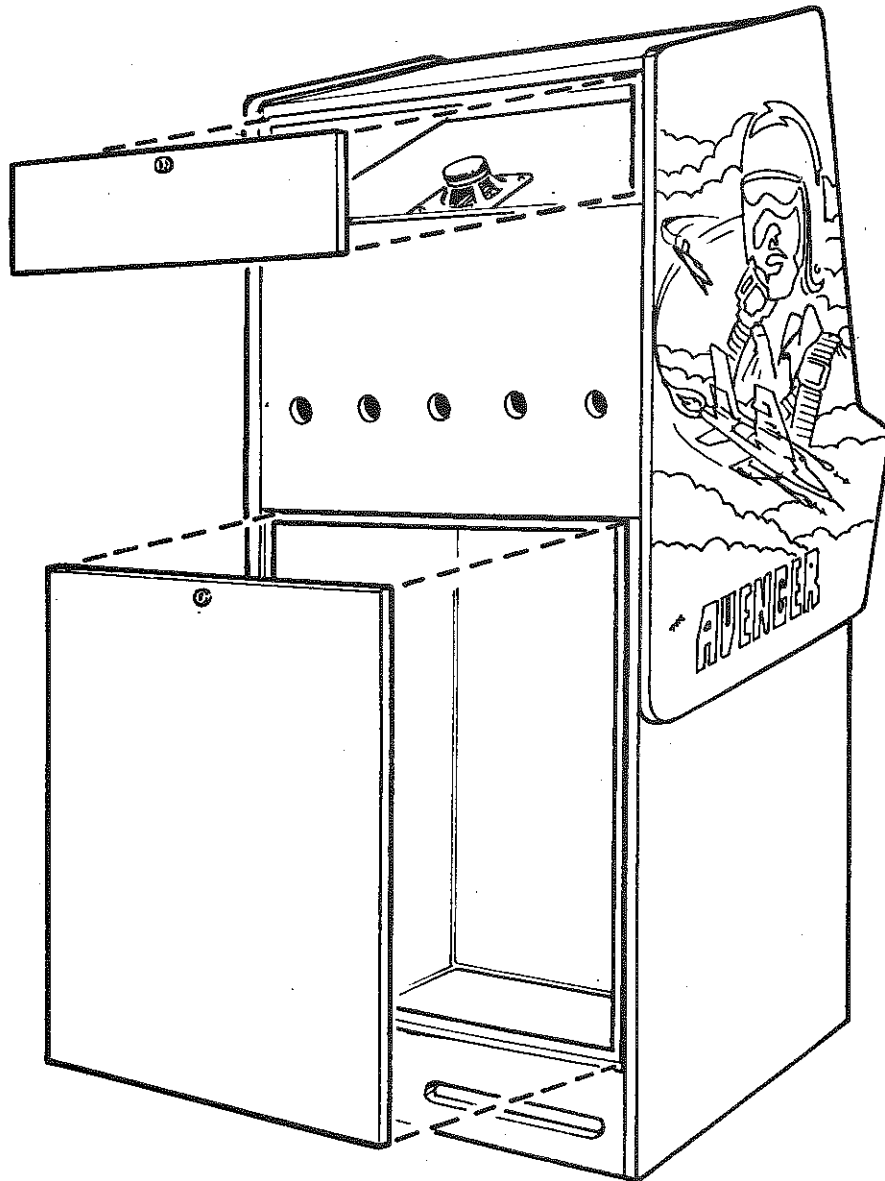

FIG. 1
- . Access into the back of the Cabinet is gained by removal of two Back Doors (Refer to Figure 1); the key for these doors is in the Instruction Manual Envelope. The Monitor Adjustments, the type EG-1020 Logic Board, the type PS-3 Power Supply Board, LD-1 Lamp Driver Board, FRB-2 Filter and Relay Board, and Sound Simulator may be reached by removal of the back doors.
- . Remove the Back Door (See Figure 1).